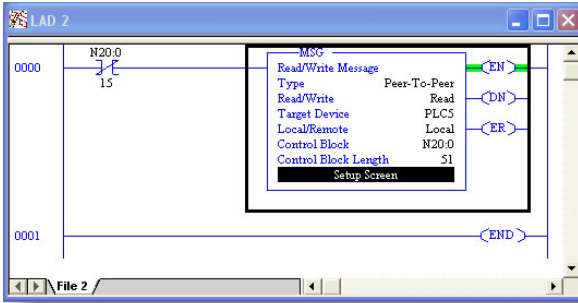

Figure 122: Completed PLC Program
7) The program is now complete. Refer to Figure 122.